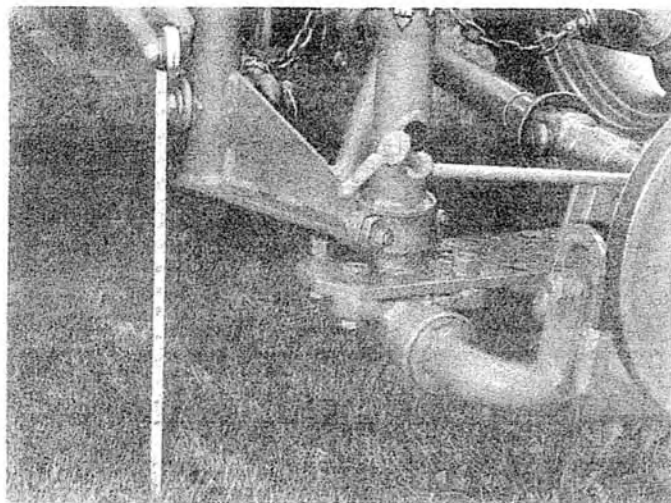

Fig. 16 - Adjusting Operating Height — Left Side
1. With the cutter bar in the operating position, raise the mower with the hydrallever until the left-hand hitch pin is 19-1/2 to 20 inches off the ground; this is illustrated in Fig. 16, which shows the measurement being taken from the rear of the hitch pin. Keep the tractor engine running until the operating height has been set; this will preclude any possibility of "droop" during this setting.